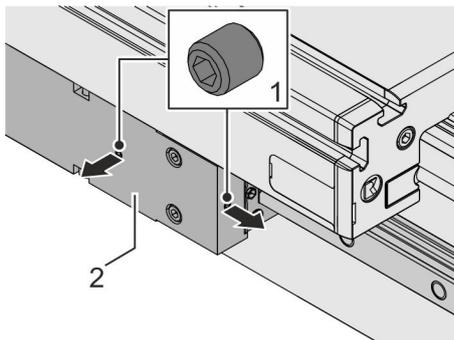

Fig. 42: Removing the straight pin
1. ➔ Unscrew the glued straight pin (Fig. 42/1) on the holding plate or on the side of the holding plate of the locking system (Fig. 42/2) using a hexagon socket wrench (size 2.5).